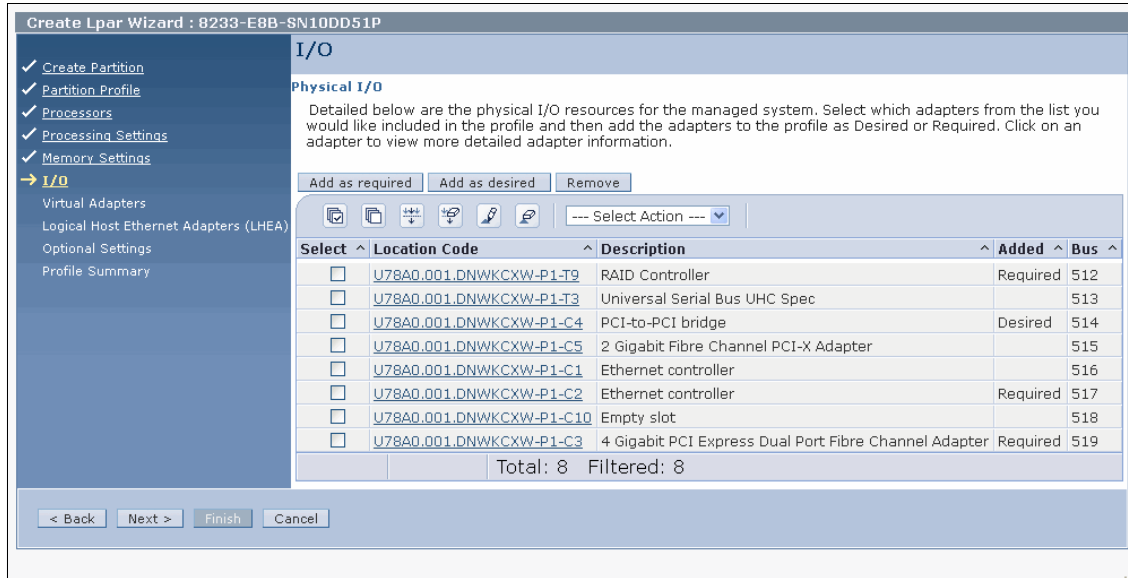

Figure 4-30 Partition physical I/O setting
On the I/O window, as shown in Figure 4-30 on page 149, you select physical I/O resources for the partition to own. If you want the partition to own virtual resources, refer to item 5., “Configuring virtual resources” on page 149.
Figure 4-30 shows the physical I/O setting of the partition.